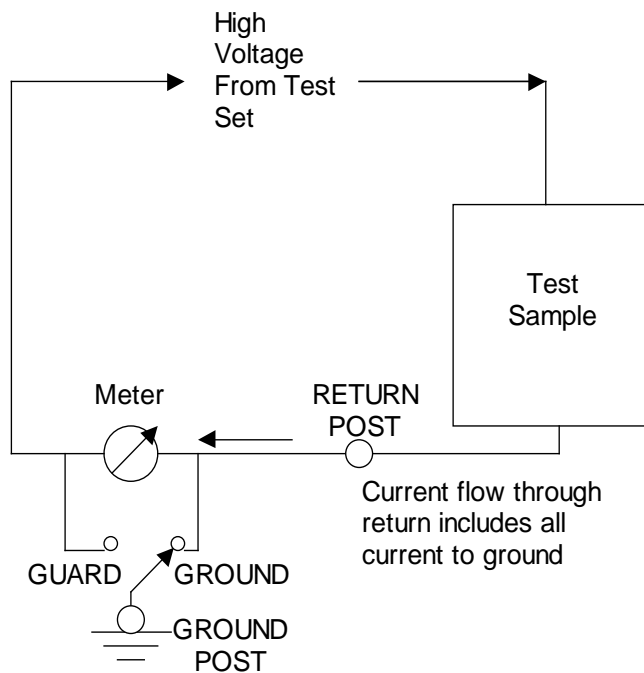

Figure 2, Grounded Return Diagram
1. **Grounded Return-** With the output return in the grounded mode, the current meter reads all current to ground, internal and external to the test set. This current might include corona, surface tracking, and any shunt resistance. The typical diagram for grounded return operation is shown in Figure 2 below.